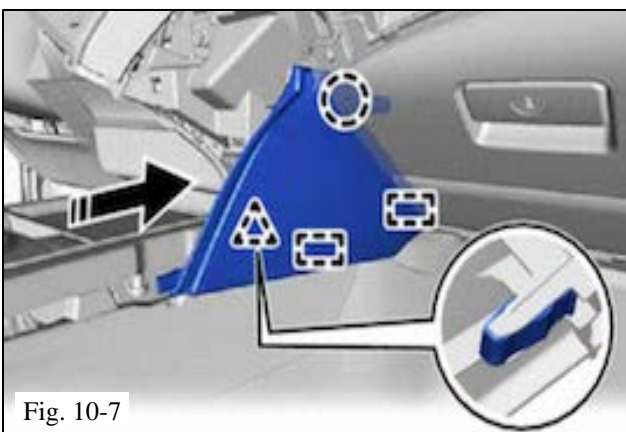

Fig. 10-7
- (1) Engage the 2 guides, claw, and clip to install the instrument panel finish plate garnish (Fig. 10-7)